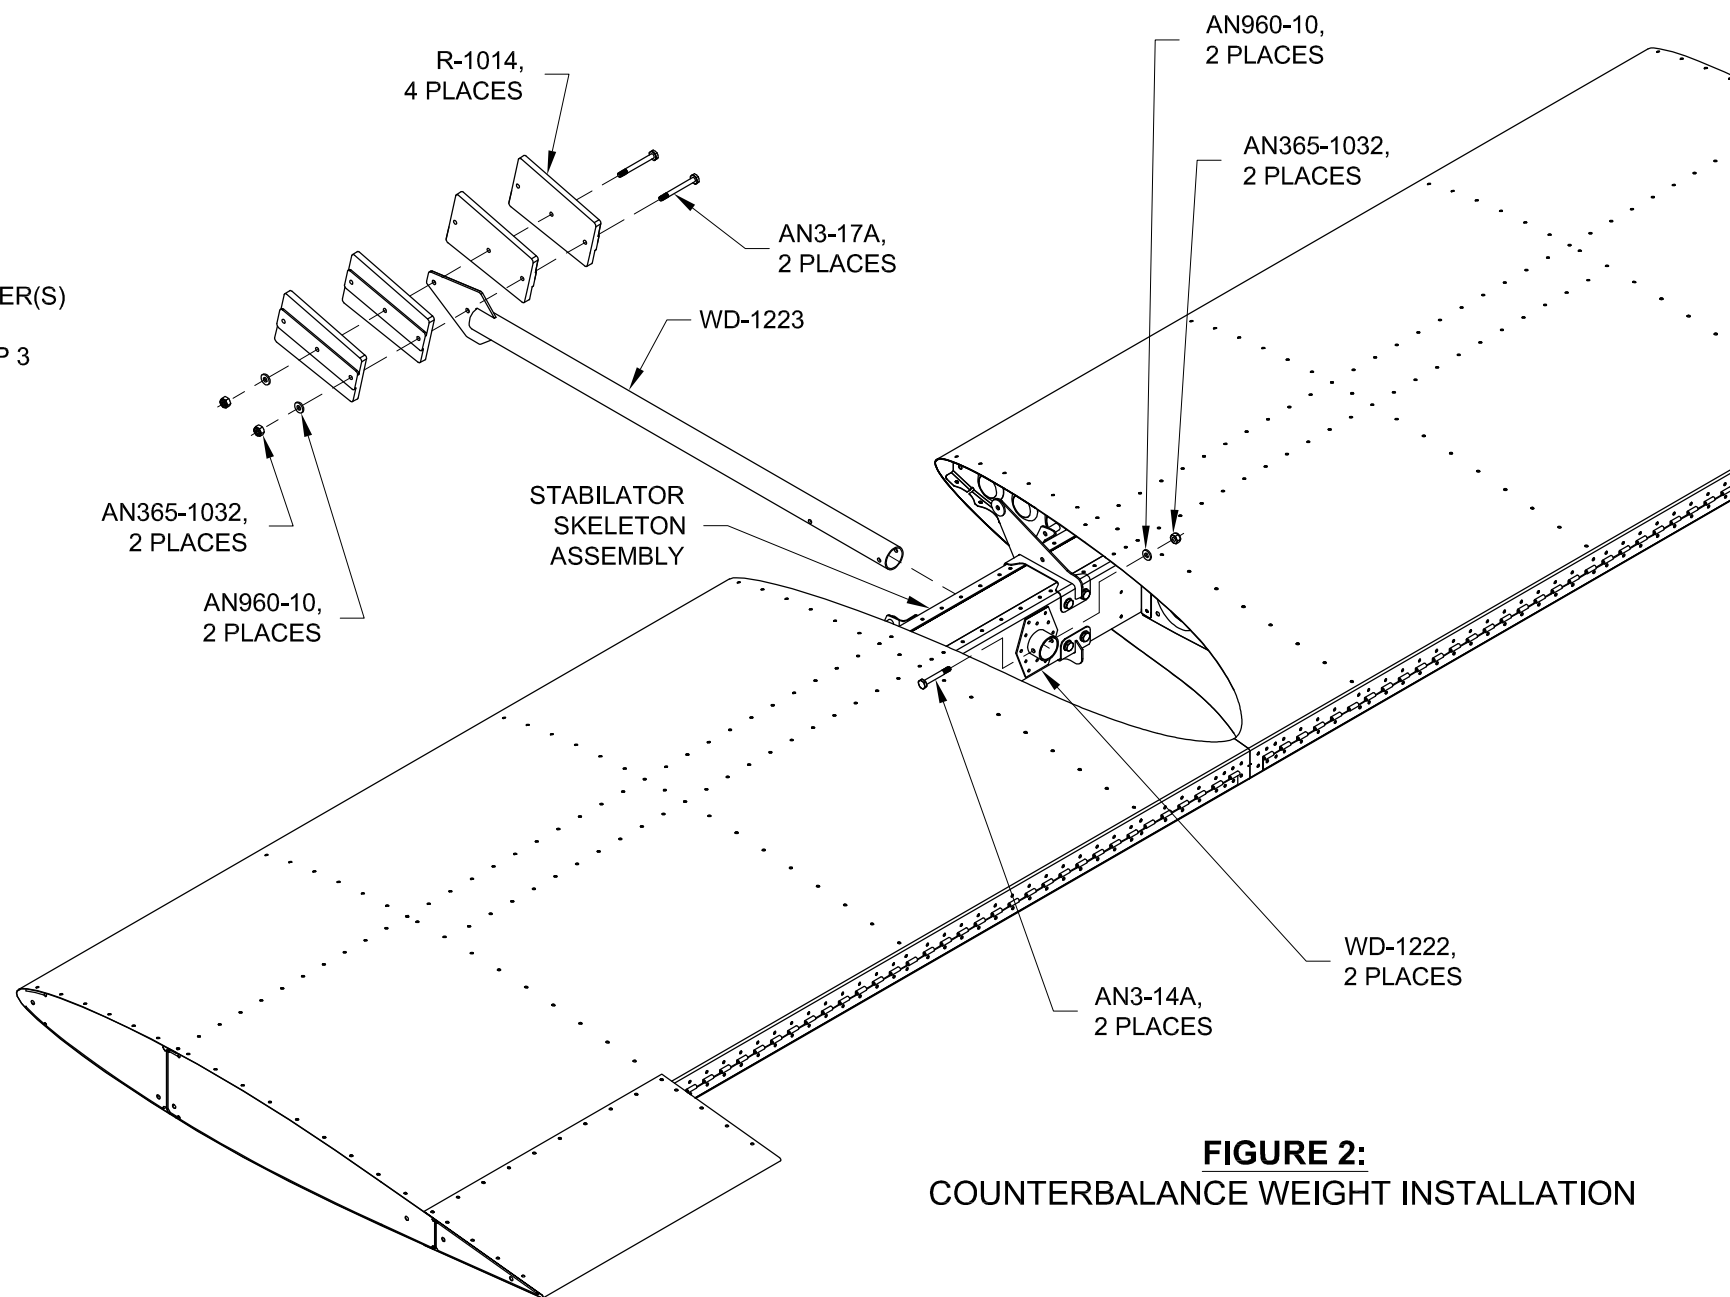

FIGURE 2:
Step 8: Install the R-1014 Counterbalance Weights to the WD-1223 Counterbalance Arm with the hardware called out in Figure 2.